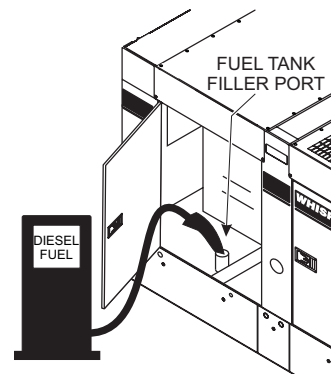

Figure 26. Fueling the Generator
2. Open cabinet doors on the “right side” of the generator (from the generator control panel position). Remove the fuel cap and fill the tank (Figure 26).